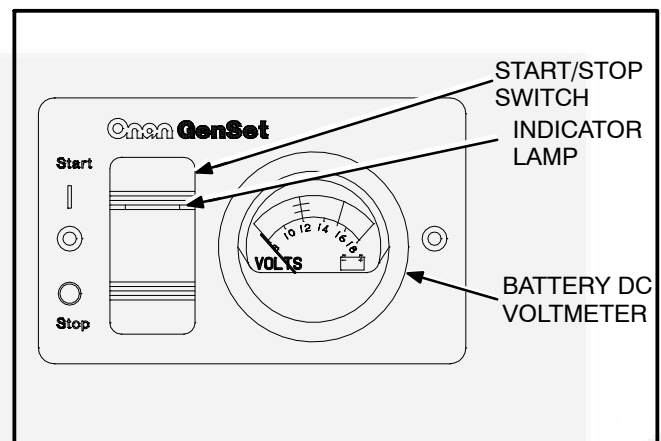

FIGURE 8-5. REMOTE PANEL WITH START/STOP SWITCH AND DC VOLTMETER
- Remote panel with start/stop switch, indicator lamp, and battery DC voltmeter (see Figure 8-5).